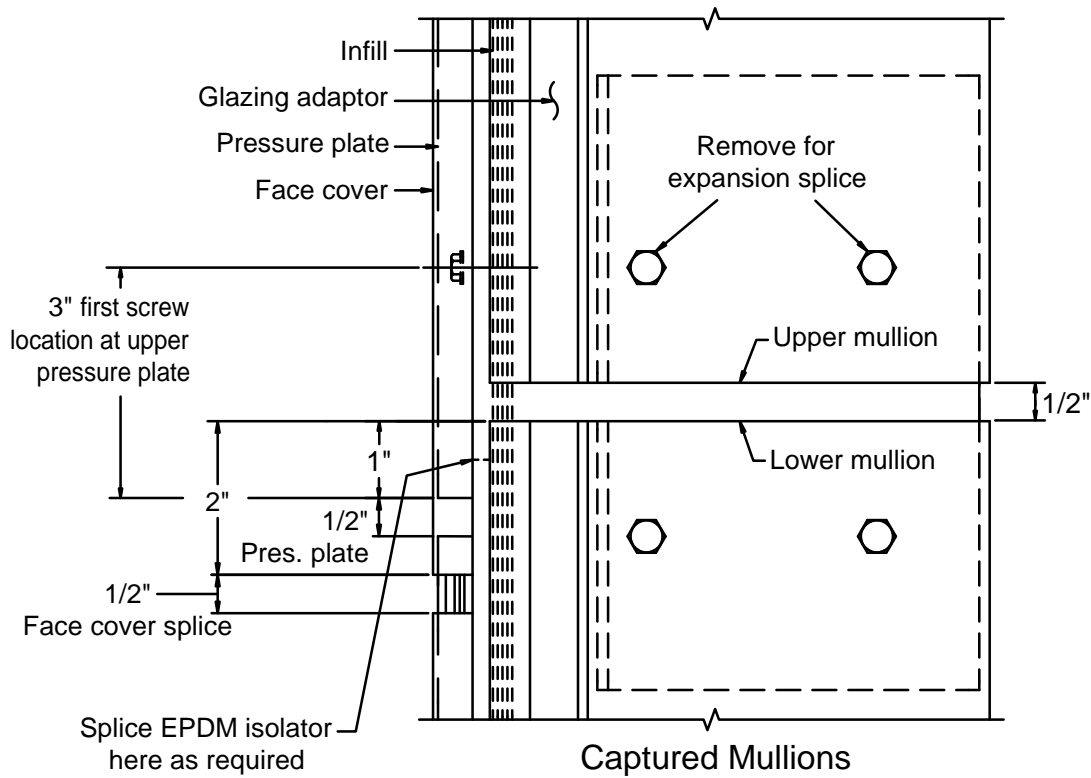
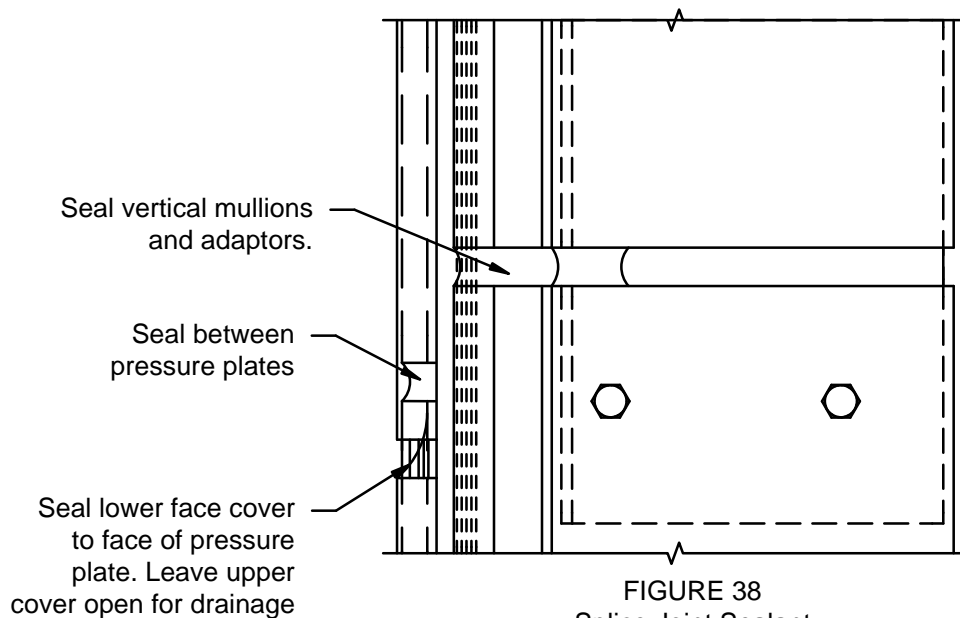

FIGURE 37
FIGURE 38
- B.4 Offset pressure plates and face covers per FIGURE 37 page 37, sealing pressure plate and face cover joints as shown in FIGURE 38, page 37.